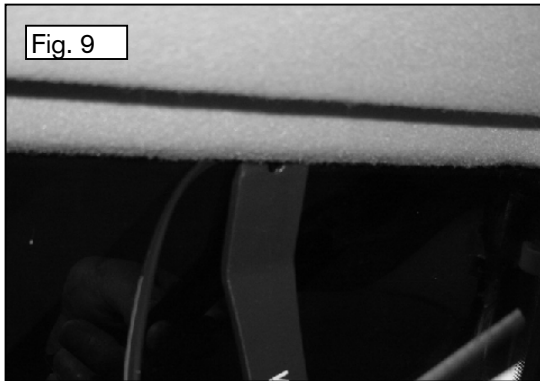

Fig. 9
- (9) Use a plastic pry tool to push the antenna cable into the headliner. While feeding wire into headliner wrap six (6) pieces of sponge tape lengthwise and evenly spaced across the length of wire being fed into the headliner. Ensure that two (2) pieces of sponge tape is placed on the antenna cable in the area of the dome lamp housing. Fig 9 & 10